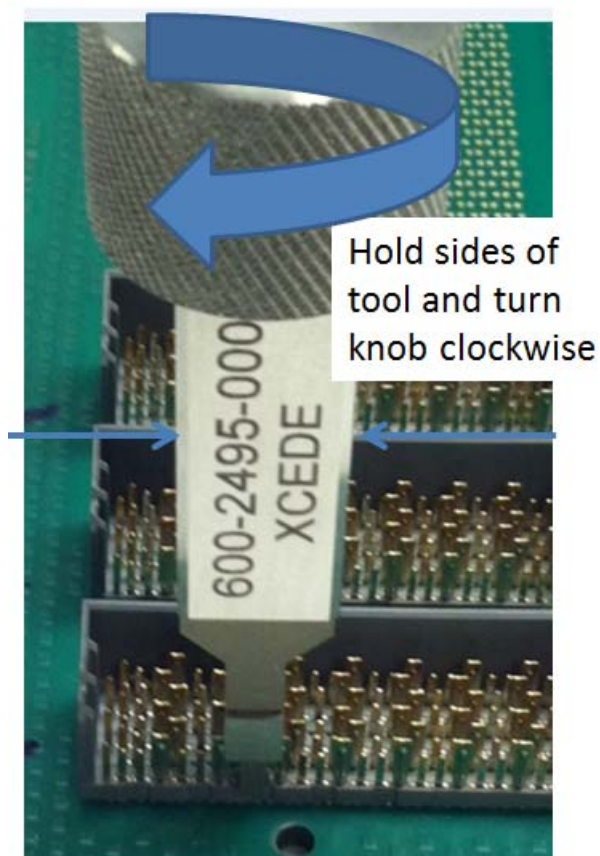
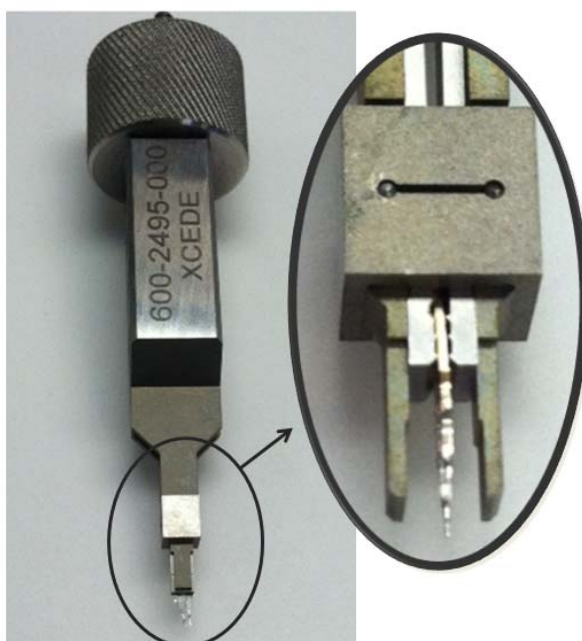

Figure 5. Proper dual signal pair removal
Figure 6. Removed signal pair in tool
- 5.1.5 Once the dual signal removal tool is properly loaded onto the damaged signal pins, turn the knob clock wise to remove the signals out of the BMA and PCB, as shown in Figure 5. As the knob is turned clockwise the tip of the dual signal removal tool will slowly lift up. Once the signals are free from the PCB and BAM plastic lift the tool straight up. The removed signal blades in the tool should resemble Figure 6.